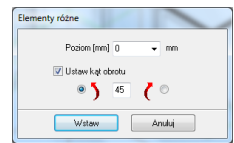

Fig. 250 – Various elements dialog
- In the **Various elements** dialog set the insertion level of the model (Fig. 250);